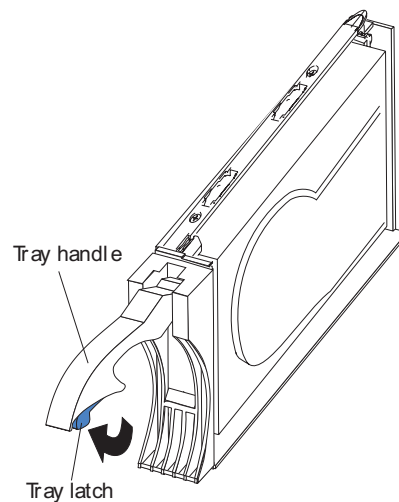

Figure 82. E-DDM CRU handle
- b. Pull the handle on the tray out so that it is in the open position, as shown in Figure 82.
- a. Release the latch on the E-DDM CRU by pressing on the inside of the bottom of the tray handle, as shown by the arrow in Figure 82 on page 133.